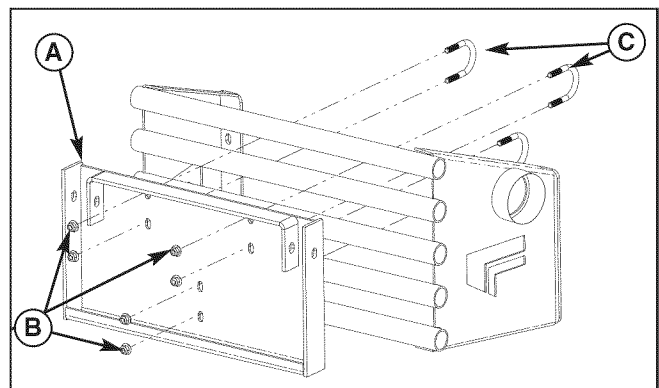

Figure 37. Install Collector Mount Plate
1. Install the collector mount plate (A, Figure 37) on to the bumper. Install two of the 3/8-16 U-bolts (C) over the second tube down from the top of the bumper and through the mounting plate and loosely secure with the 3/8-16 nylock flange nuts (B).
2. Install the remaining 3/8-16 U-bolt bolt (C) over the fourth tube down from the top of the bumper and loosely secure with the 3/8-16 nylock flange nuts (B).
6. Tighten the top mounting bolts (C, Figure 37) securely and remove the hitch pins and mount posts.